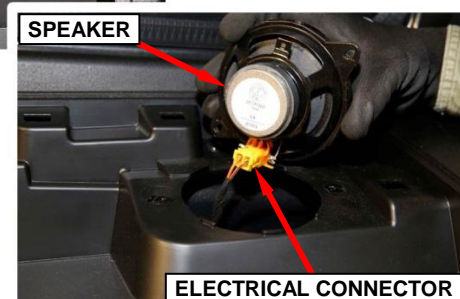

Figure 14 – Speaker
14. Remove and save the two screws securing the speaker to the left rear quarter trim panel (Figure 14).
15. Disconnect the electrical connector from the speaker then remove and save the speaker (Figure 14).
34. Connect the electrical connector to the speaker then install the speaker to the left rear quarter trim panel (Figure 14).
35. Install the two screws securing the speaker to the left rear quarter trim panel (Figure 14).